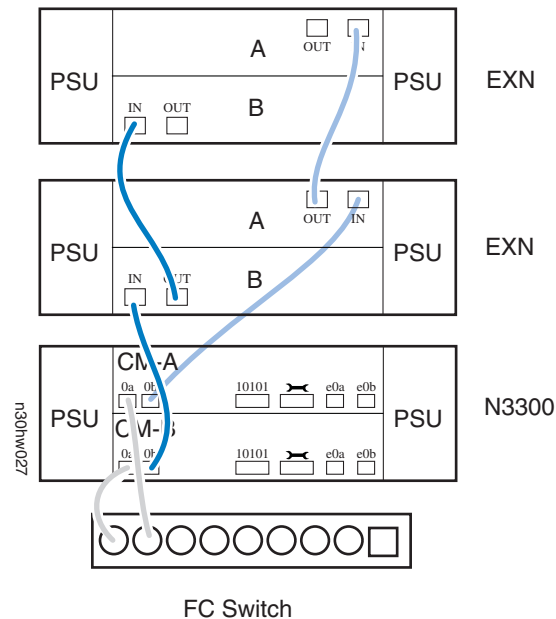

Figure 4. Cabling the system to storage expansion units
3. As shown in Figure 4 on page 23, cable port 0b on the top controller module (CM-A) to the first storage expansion unit Channel A ESH2/ESH4 or AT-FCX IN port.
4. As shown in Figure 4, cable port 0b on the bottom controller module (CM-B) to the first storage expansion unit Channel B ESH2/ESH4 or AT-FCX IN port.
5. As shown in Figure 4, cable the first storage expansion unit Channel A ESH2/ESH4 or AT-FCX OUT port to the next storage expansion unit Channel A ESH2/ESH4 or AT-FCX IN port. Label this cable with a solid-colored label.
6. As shown in Figure 4, cable the first storage expansion unit Channel B ESH2/ESH4 or AT-FCX OUT port to the storage expansion unit Channel B ESH2/ESH4 or AT-FCX IN port. Label this cable with a solid-colored label.